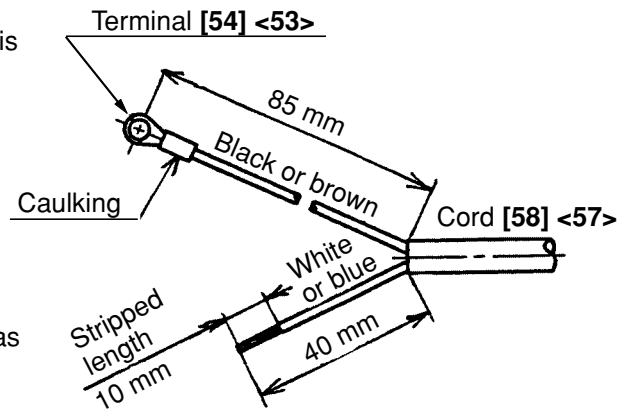

Fig. 5
- 1) Remove the standard cord (cord armor is integrally molded) according to the procedure of 8-1 (3).
- 2) Strip the coating on the internal wire of the Cord [58] <57> about 10 mm from the tip and crimp the Terminal [54] <53> to the brown or black internal wire as shown in Fig. 5.